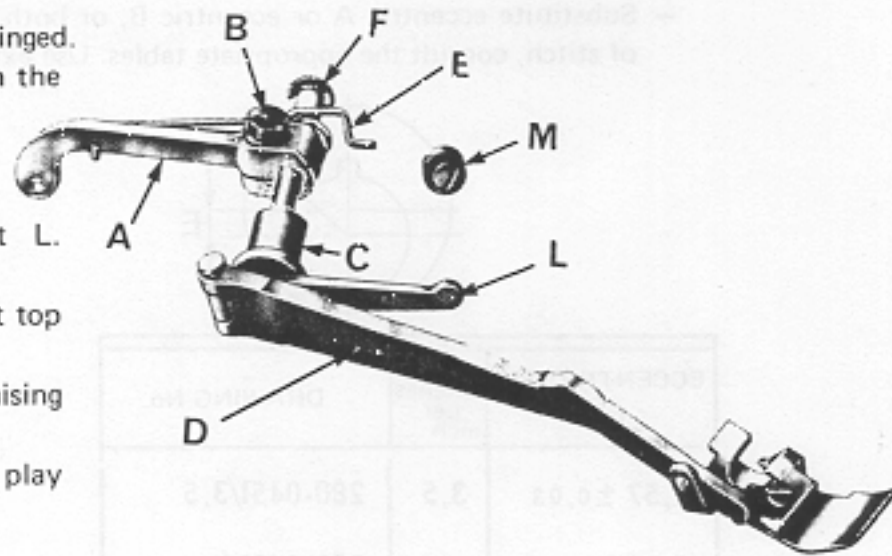

fig.16
e) Locking and adjusting presserfoot lever (fig. 16).